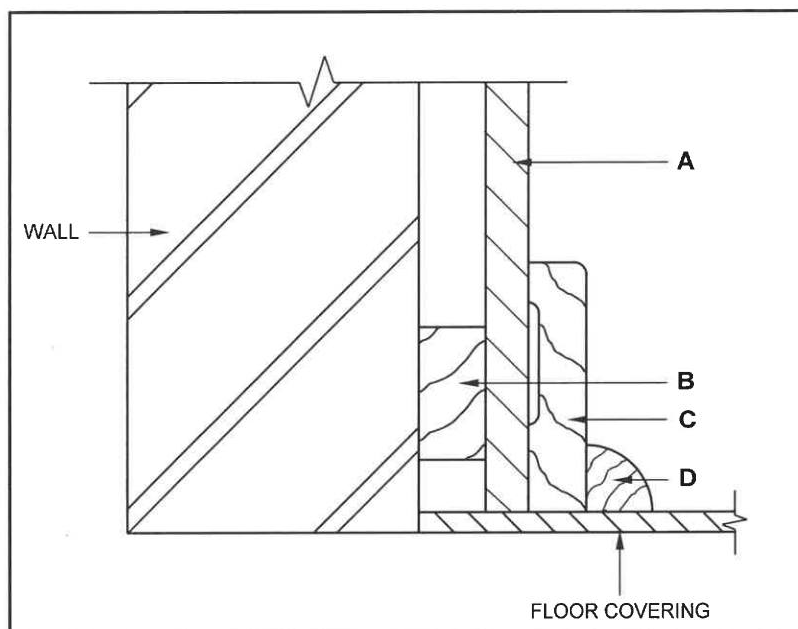

FIGURE 3.2
- 3.2 FIGURE 3.2 below shows the vertical section through the bottom part of the wall panelling.